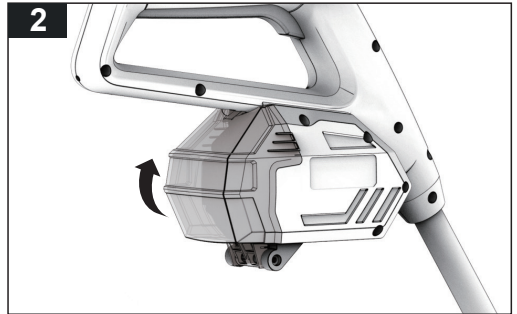

Fig. 7
- b. Close the battery pack compartment cover. (Fig.7)